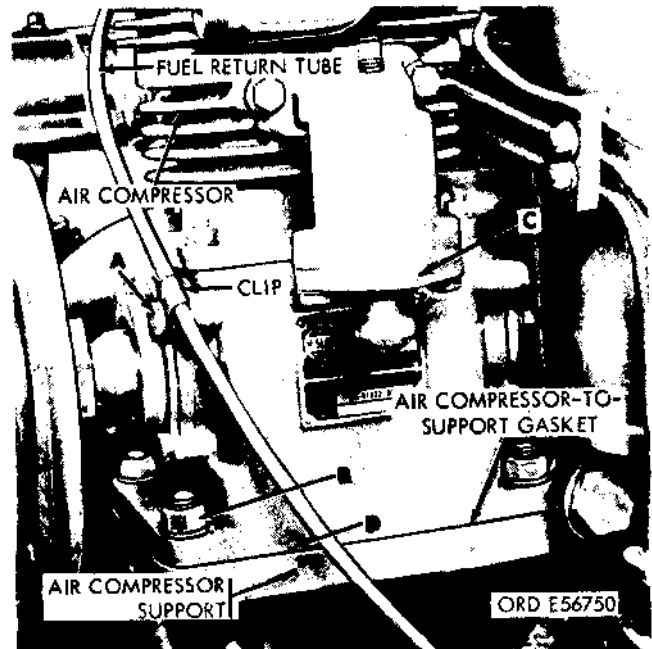

Figure 54.37. Air compressor - Multifuel models.
(13) Disconnect lines at air compressor (figure 54.37). Remove the capscrew and clip holding the fuel return to fuel injector pump overflow valve tube to the air compressor. Install the capscrew on the air compressor tube inlet.